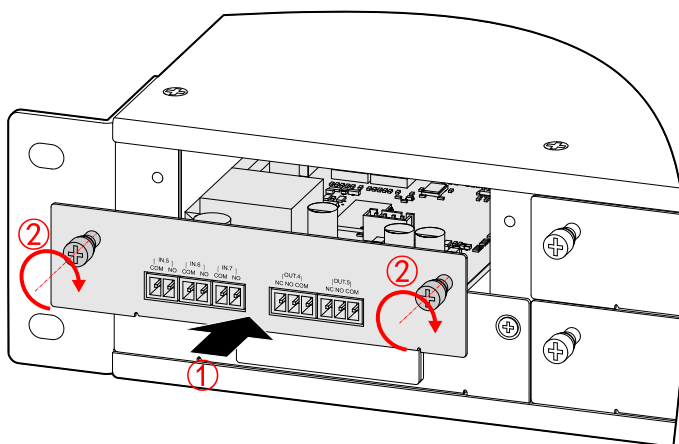

Figure3-17 Install the dry contact expansion card
Step 2 Install the dry contact expansion card on the system monitor box, as shown in Figure3-17.